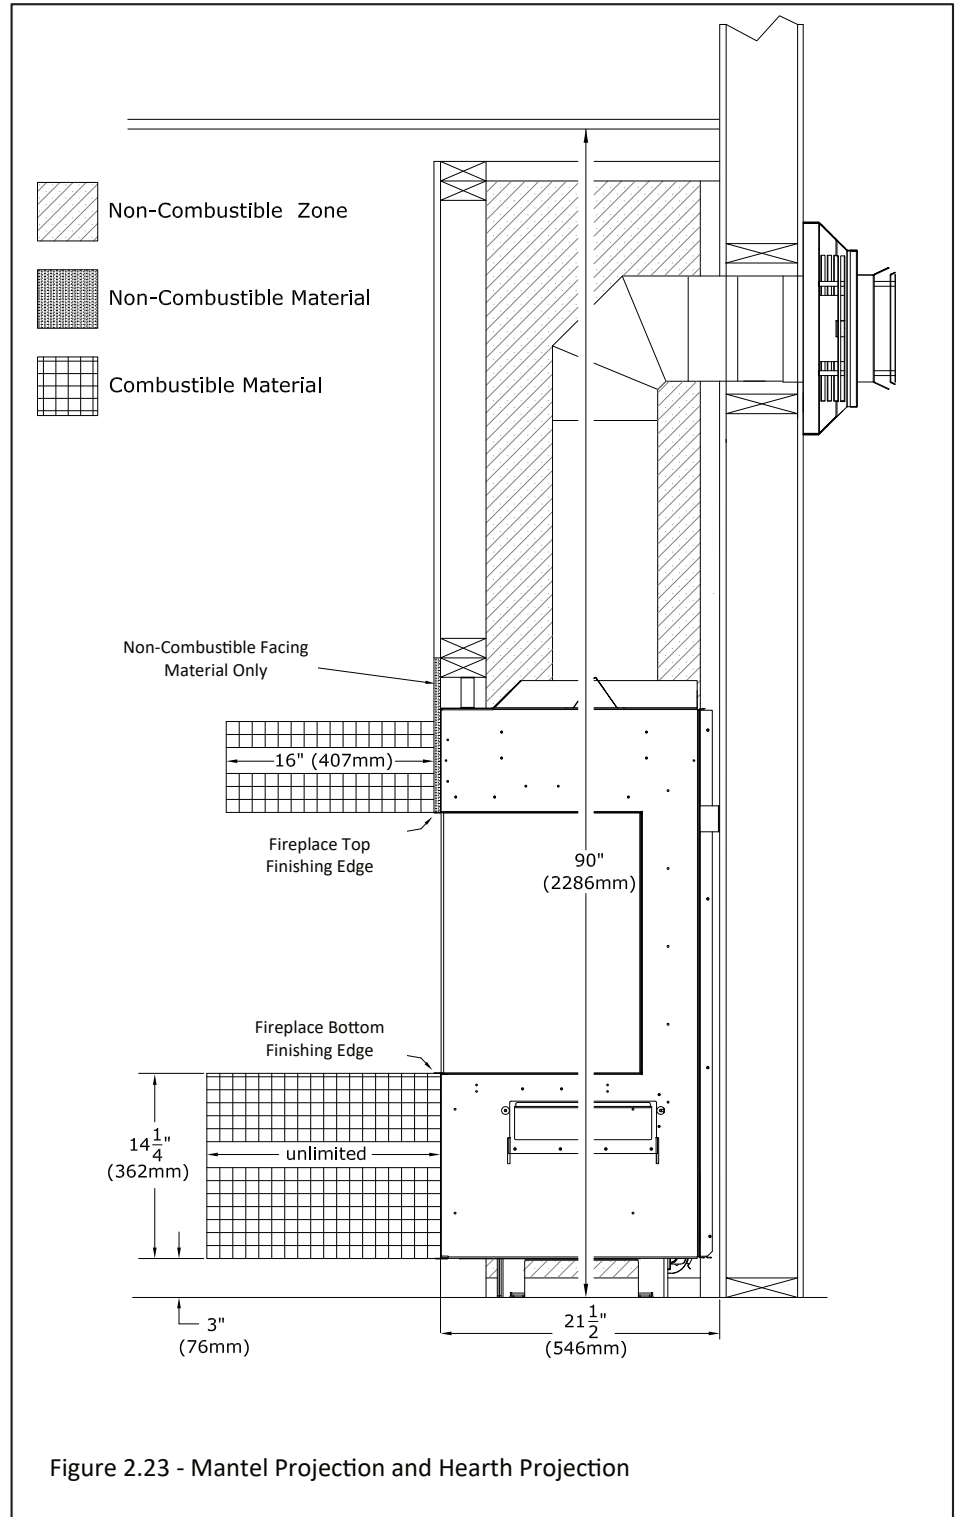

Figure 2.23 - Mantel Projection and Hearth Projection
- **Combustible Mantel Projections:** A maximum of a 16" (406mm) mantel can be installed flush at the side and top finishing edge. See Figure 2.23.
- **Combustible Hearth:** Combustible hearth can have an unlimited projection. Hearth can be raised flush to the bottom finishing edge. See Figure 2.23.